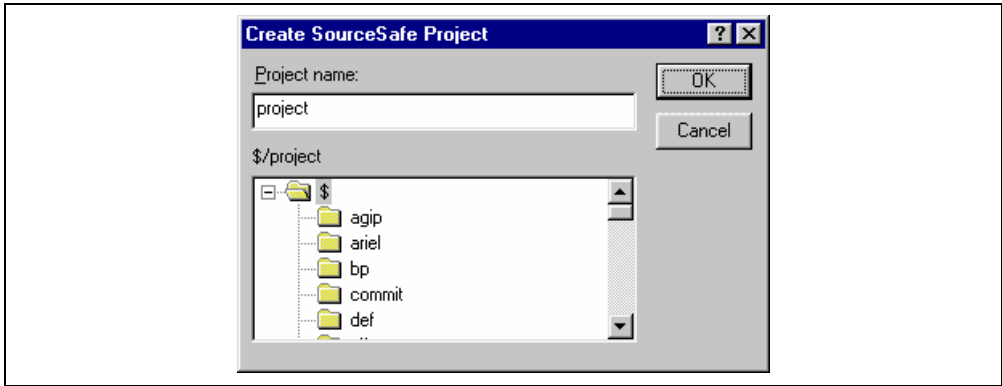

Figure 9.2: Create SourceSafe Project
6. Click “OK”. The “Create SourceSafe Project” dialog is invoked (figure 9.2).